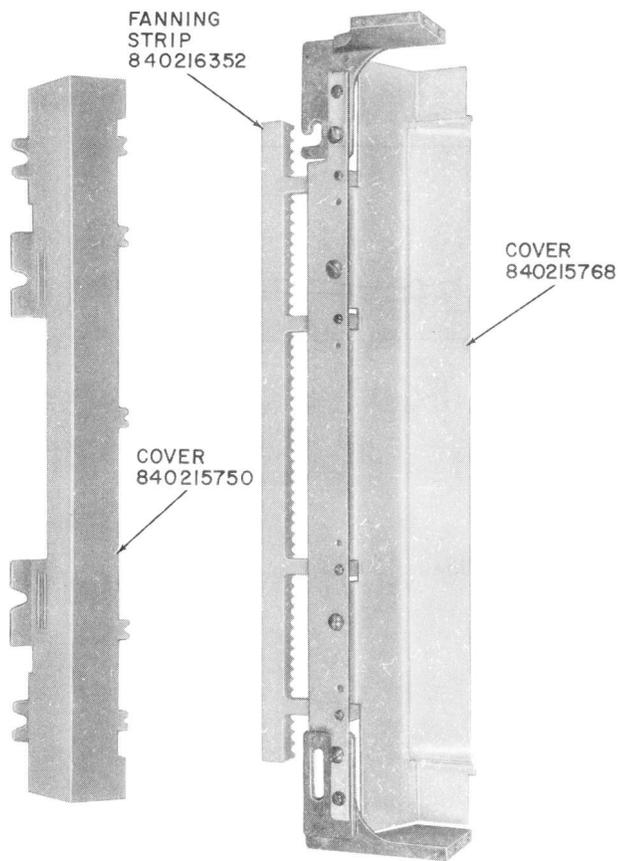

Fig. 8—D-180450 Modification Kit for 303-Type Connector
5.02 *D-180450 Modification Kit (Fig. 8):*